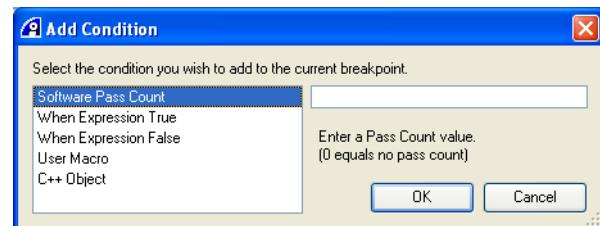

Figure 12-15 Add Condition dialog box
3. Click **Add** in the Conditions group. The Add Condition dialog box is displayed. Figure 12-15 shows an example:
3. Click **Add** in the Conditions group. The Add Condition dialog box is displayed, shown in Figure 12-15 on page 12-18.